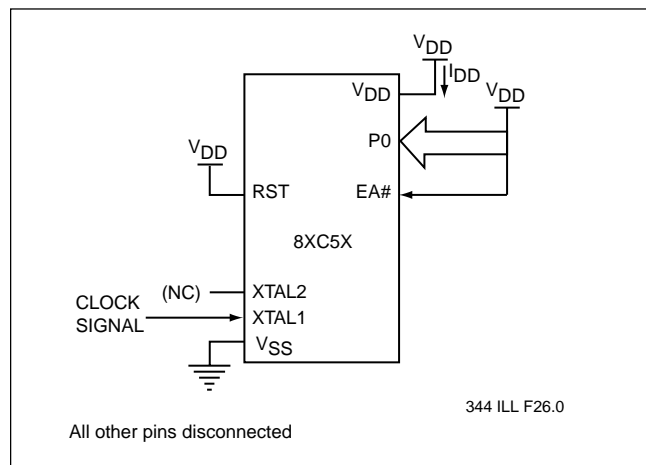

FIGURE 22: I_{DD} TEST CONDITION, ACTIVE MODE
7. See Figures 22, 23, 24 and 25 for test conditions. Minimum V_{DD} for Power Down is 2V.